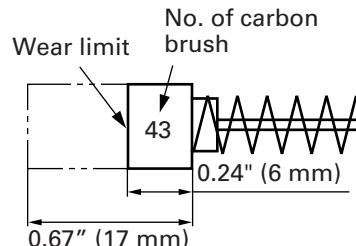

Fig. 24
4. Inspecting the carbon brushes (Fig. 24)
NOTE: Use HITACHI carbon brush No. 43 indicated in Fig. 24.